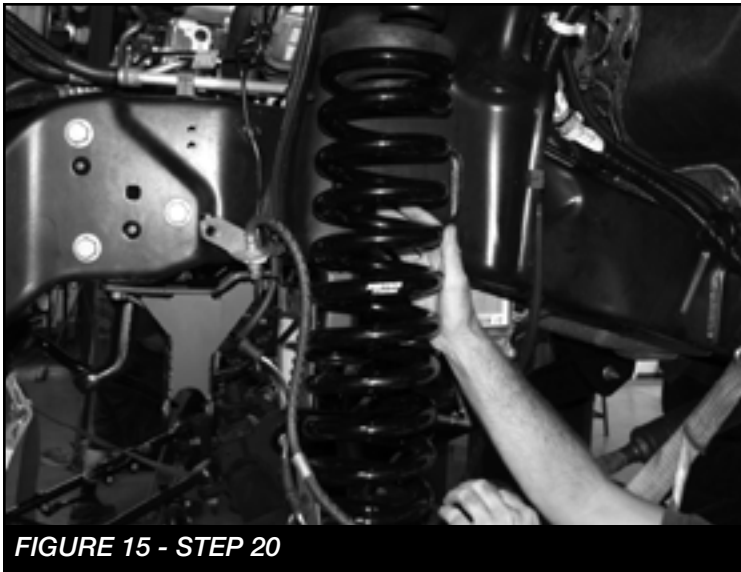

FIGURE 15 - STEP 20
20. Install FT30648 (Coil Spring Diesel) or FT30731 (Coil Spring Gas) using the factory upper isolator. **SEE FIGURE 15**